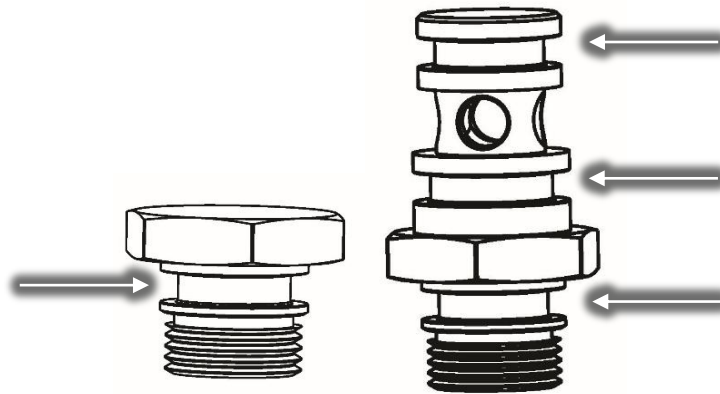

Figure 5 – O-Ring Grooves
5. Clean the O-ring grooves in the Plug and SCR Manifold Return Brass Fitting. Refer to Figure 5 – O-Ring Grooves.